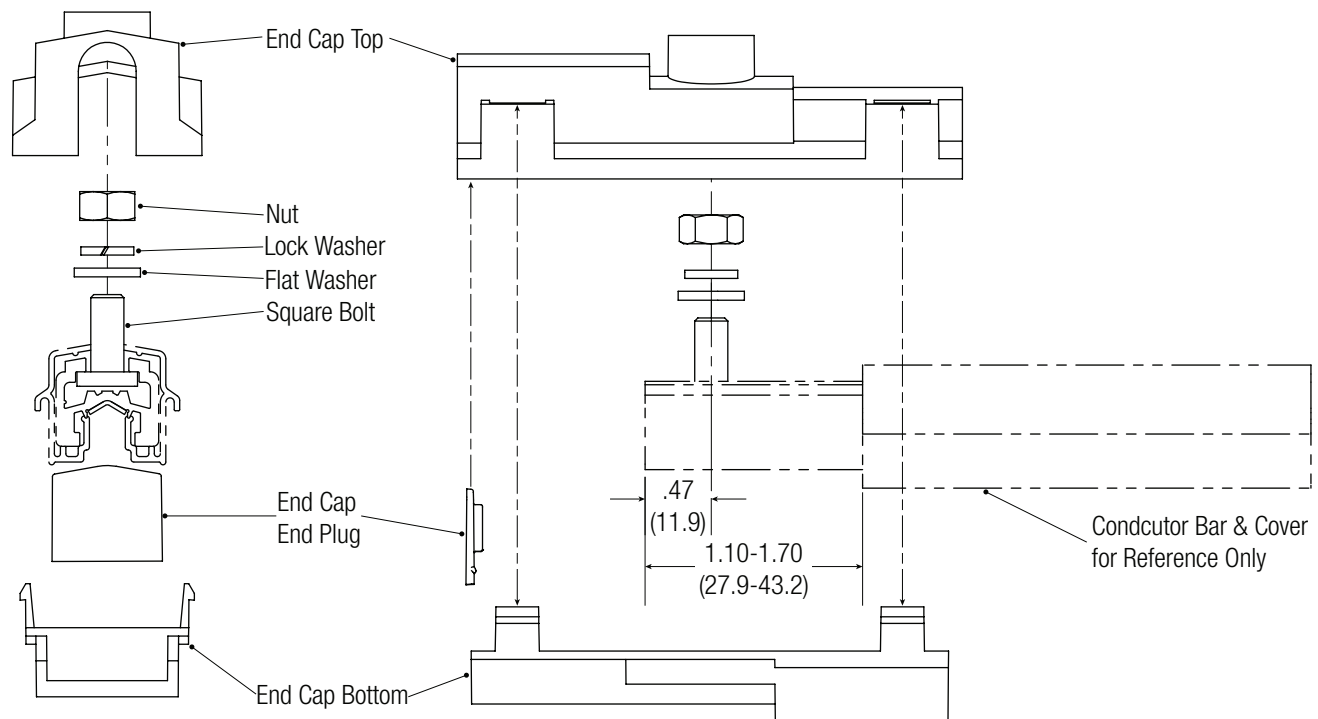

Figure: 11-2
4. Place nut, lock washer, and flat washer on bolt in the order shown in *Figure 11-2*.